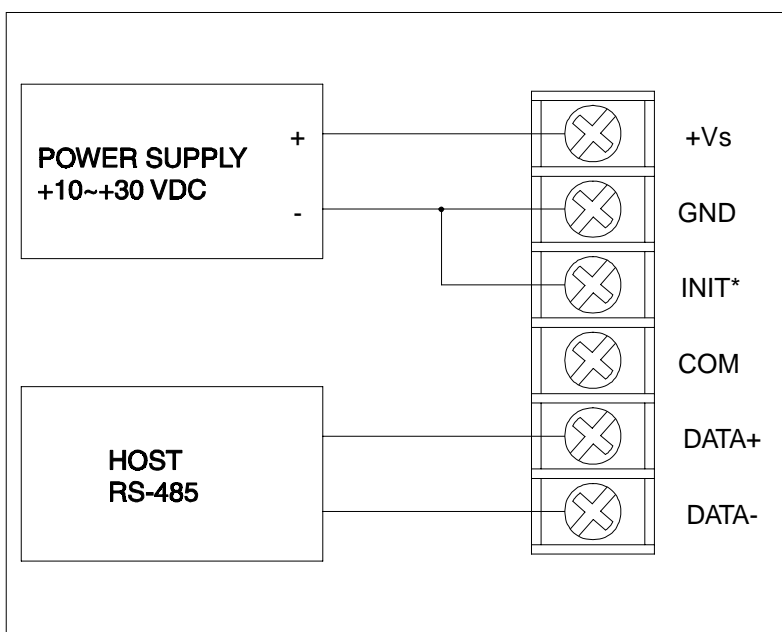

Figure A-3 Grounding the INIT* terminal
2. Power the ADAM-5000 system ON while shorting the INIT* and GND terminals as shown in Figure A-3.